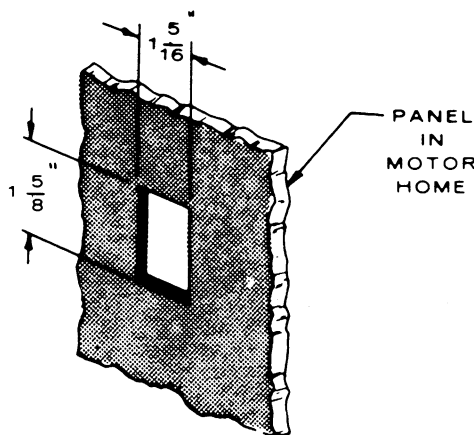

FIGURE 9. MOTOR HOME CUTOUT
1. Select control location. Using Figure 9 or 10 as a guide, drill screw holes and cut hole to accommodate remote switch in dash panel.